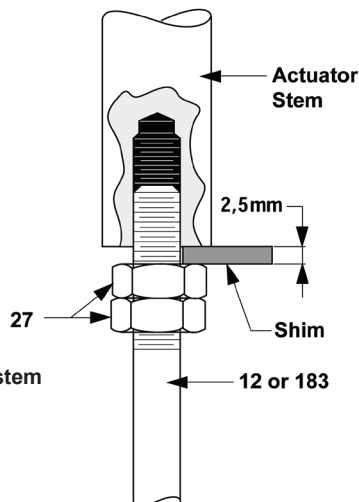

Figure 5 - Plug-stem adjustment
- Screw and tighten the two screws (16). Tighten also the two nuts (8a). Finger tight the two packing flange nuts (8b).
- Screw one nut (27) against the lower part of the actuator stem while placing a 2,5 mm shim between nut and stem (see Figure 5).
- Tighten second nut (27) against the first in this position. Remove the shim and screw the plug stem into the actuator stem, until the nuts contact the actuator stem. Lock by means of a wrench applied on the nuts.